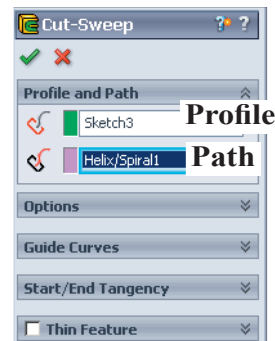
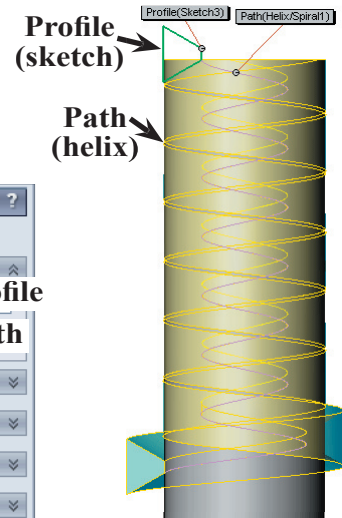

Fig. 30
Fig. 31
- Step 2. Click **Profile**  field in the Sweep Property Manager, **Fig. 30** and click the **sketch** in the **Fig. 31**.
- Step 3. Click **Path**  field in the Sweep Property Manager, **Fig. 30** and click helix, **Fig. 31**.